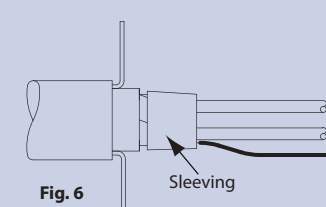

Fig. 6
- 3.5 To insulate the foil ends a suitable piece of 10mm long shrink tubing or neoprene stretch tubing or a 10mm wide lap of PVC tape may be used (See Fig. 6).